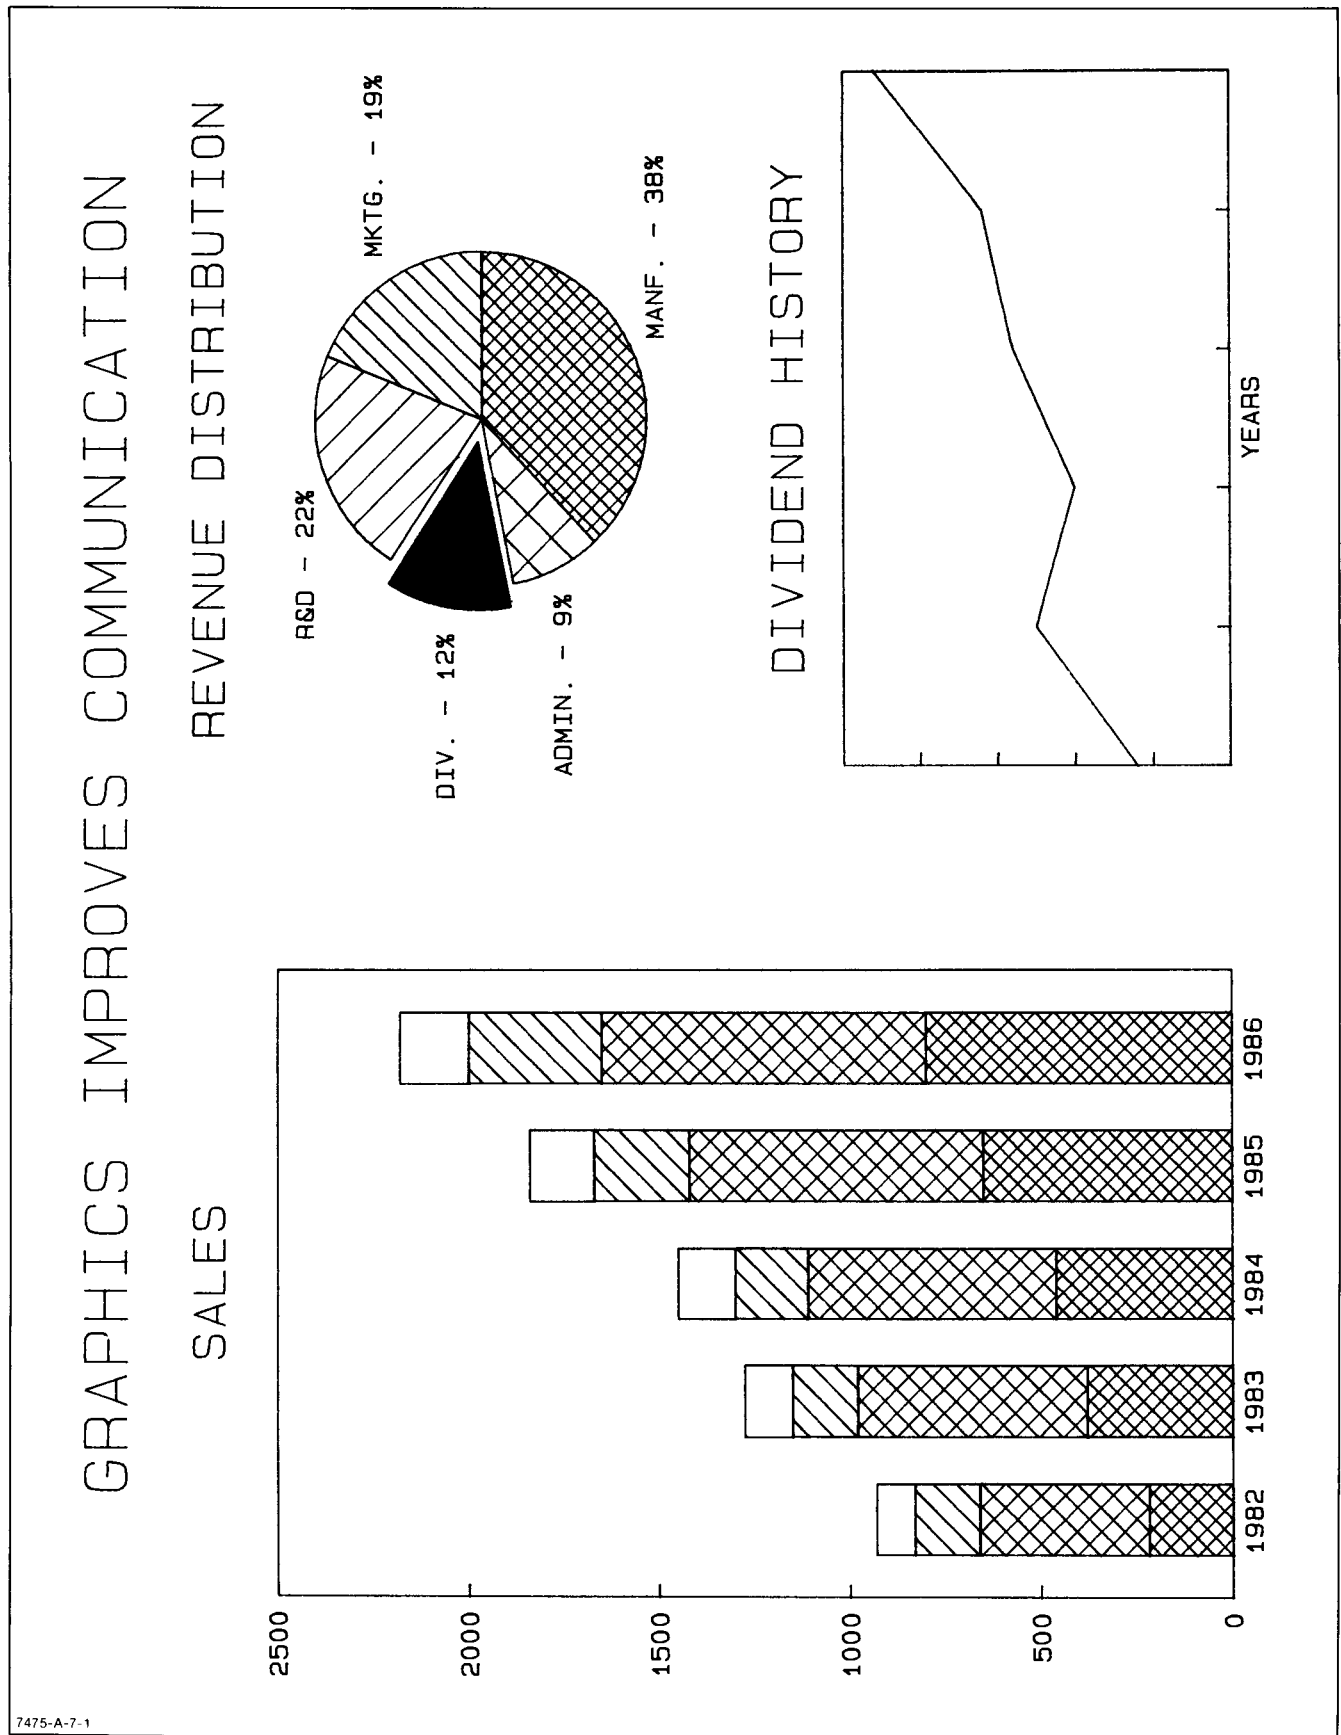

Figure 2-2. Demonstration Plot
- d. The resultant plot is illustrated in Figure 2-2.